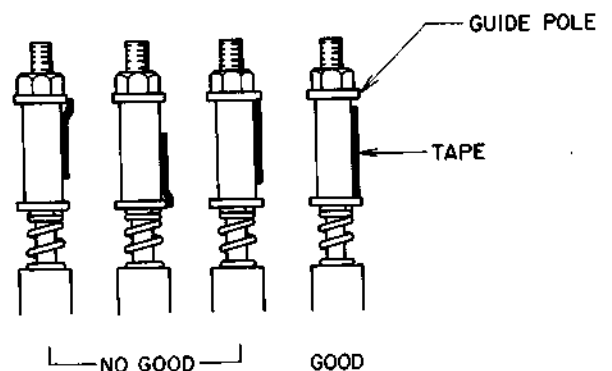

Fig. 7-2
7-2. SUPPLY TAPE GUIDE (L) ADJUSTMENT (Refer to Fig. 7-2)
- 2) Make adjustment with the supply guide height adjustment nut, so that the lower part of the tape will pass the lower part of the guide pole without curling as shown in Fig. 7-2.